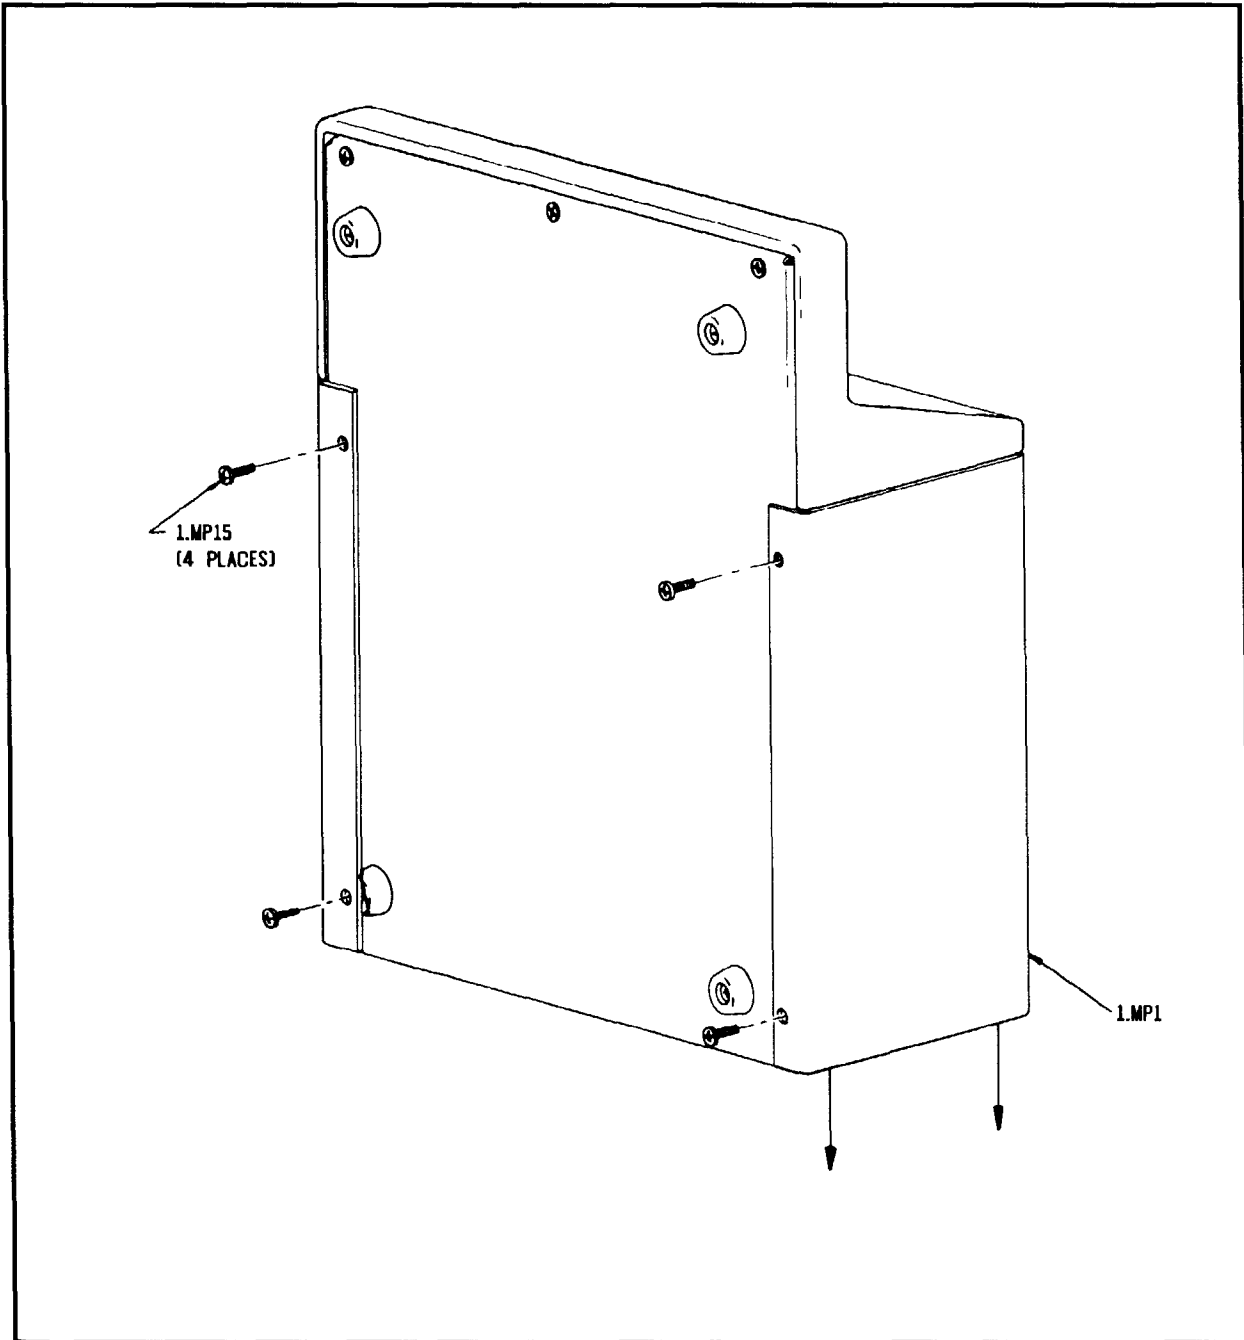

Figure 3-1. Case Cover Removal.
1. Case Cover Removal (refer to Figure 3-1)
12. Case Cover Assembly (Figure 3-1)